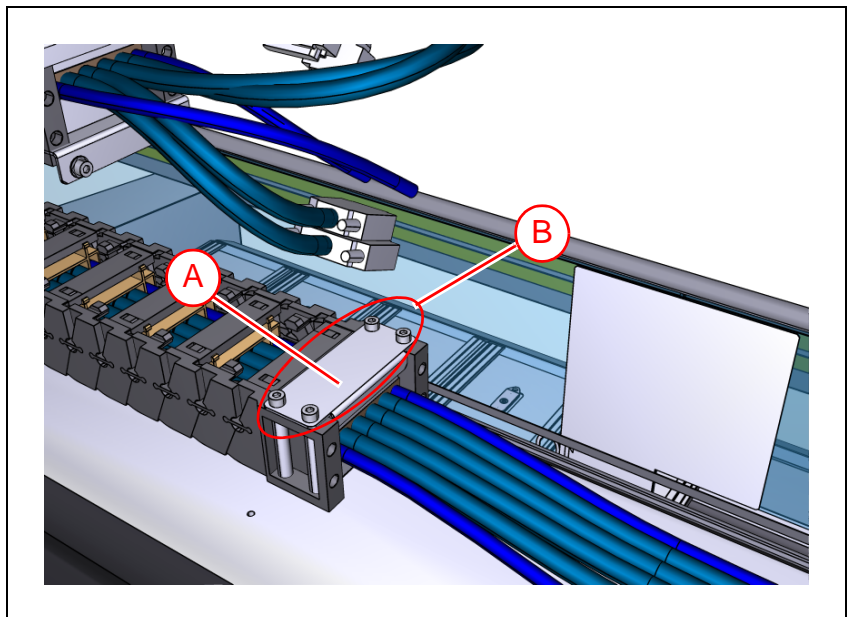

Figure 5-35. Attach cable chain to X beam.
3. Place the metal lid ('A' in Figure 5-35) on the cable chain and metal blocks and secure with four screws ('B').
14. When satisfied with the alignment, tighten the four screws in the cable chain clamp. See Figure 5-35.